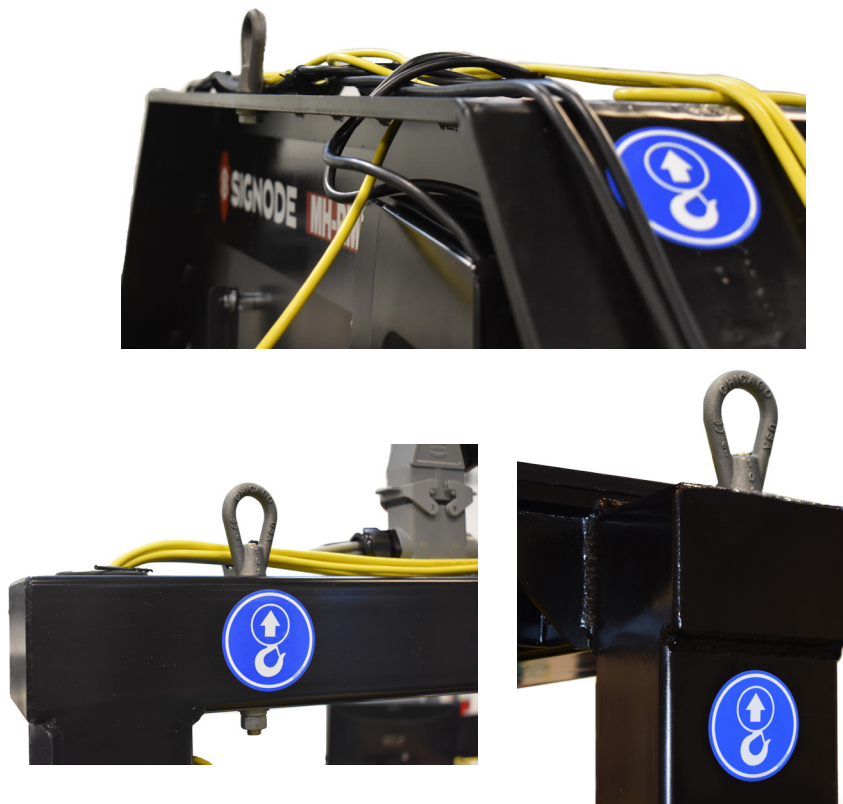

Figure 2-4: Lift Locations
2. Machine is equipped with three eye-bolts. Use eye-bolts (**Figure 2-4**) to lift and place machine in operating position.